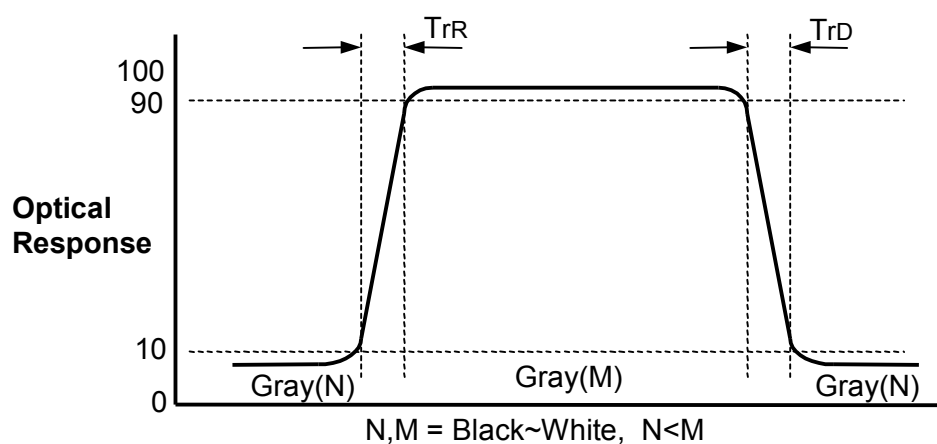

FIG.3 Response Time(G to G)
4. Response time is the time required for the display to transit from G(N) to G(M) (Rise Time, Tr_R) and from G(M) to G(N) (Decay Time, Tr_D). For additional information see the FIG. 3. (N<M)